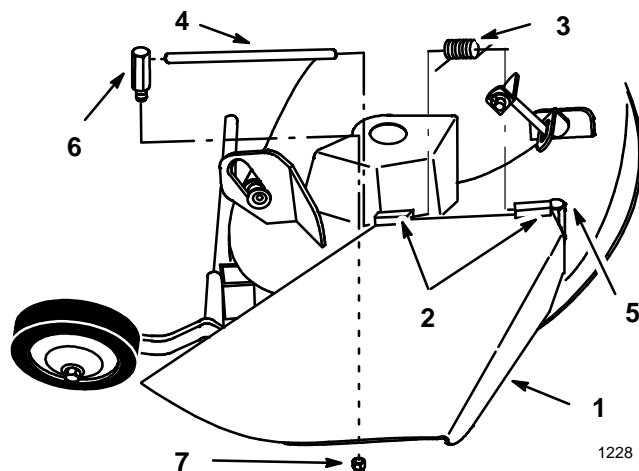

Figure 1
1. Locate items shown in Fig. 1.
4. Insert rod at front of grass deflector into short stand-off on deck. Secure rear end of rod to deck with long stand-off and nut (Fig. 1).